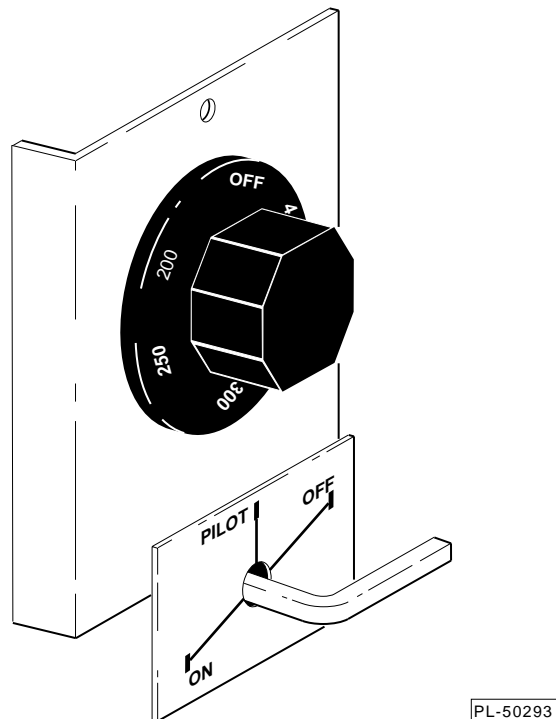

Fig. 3
1. Turn thermostat knob (located behind door panel) (Fig. 3) to OFF position.
2. Push gas valve extension arm in and turn arm to pilot OFF position (Fig. 3). Wait 5 minutes for unburned gas to vent.